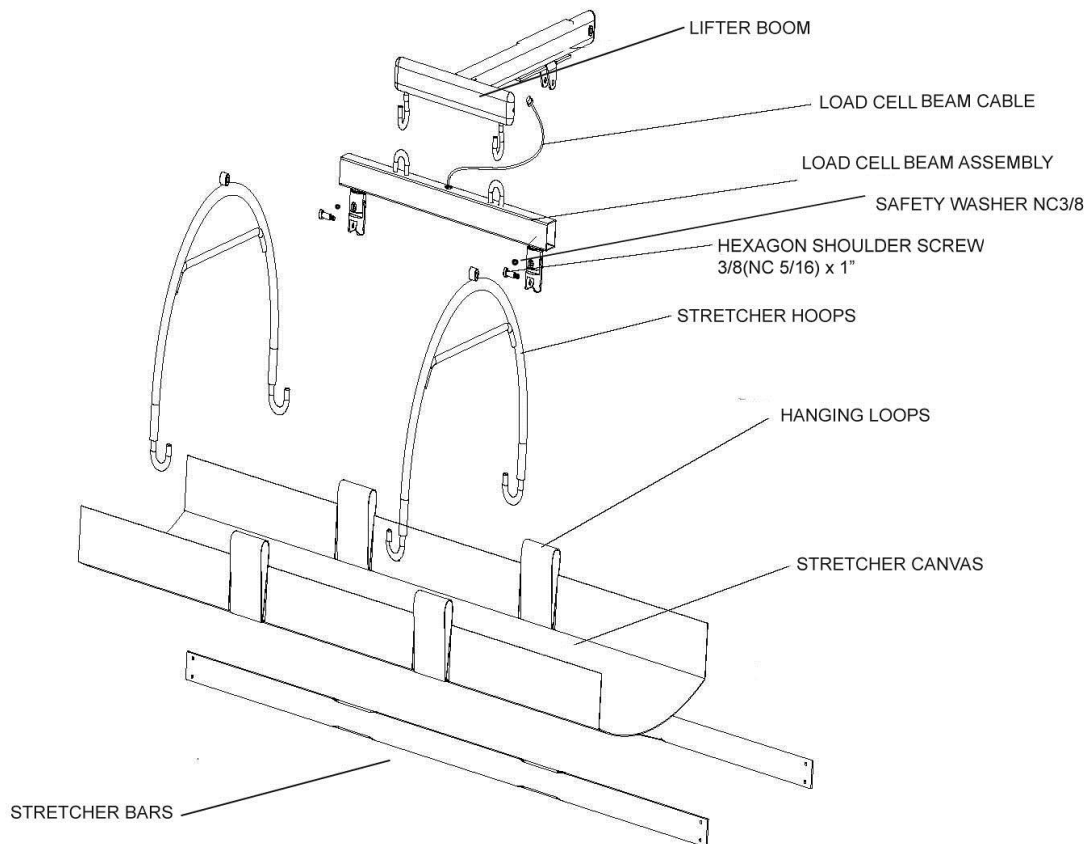

Figure 5
15. Hang the Load Cell Beam Assembly on the two hooks at the end of the Lifter Boom, using the loops on top of the Load Cell Beam Assembly (see Figure 5, above, for an illustration).